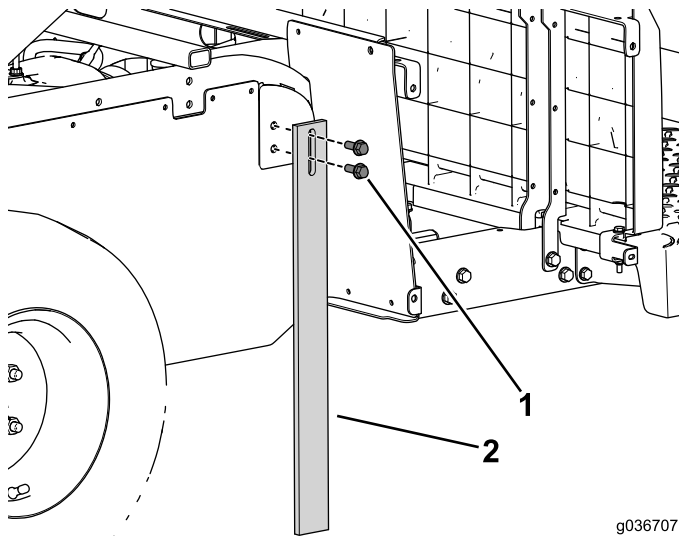

Figure 63
1. Install the support leg to the machine (Figure 63).